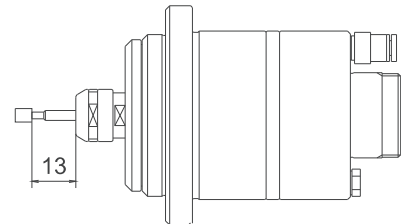

Fig. 10
- ② Do not exceed 24mm overhang for mounted grindstone O.D. $\phi 6.0\text{mm}$ (See Fig.10 and Table 1.)